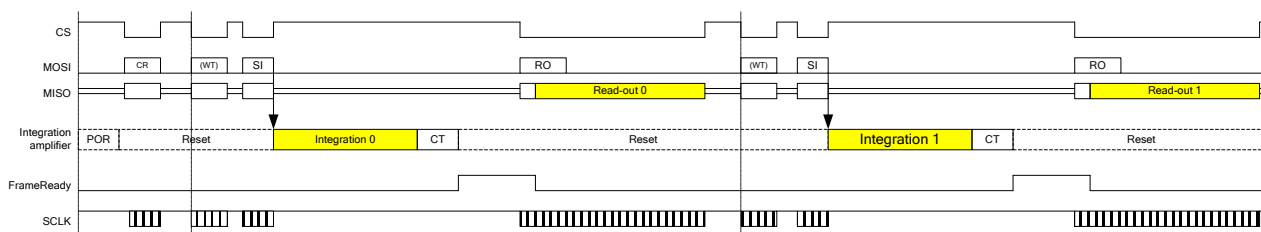

Figure 11: Global timing diagram
A global timing diagram is given in Figure 11. After power-up there is a Power-On-Reset phase (POR) to initialize the sensor in a reset state. The first command is a Chip Reset CR which is needed to fully initialize the device. The first integration cycle (Integration 0) is initiated by uploading a Start Integration SI command. After completion of the integration cycle, there is a minimum conversion time (CT) of a time t_f , after which the *FrameReady* goes high. This indicates that the read-out cycle can be started. When the read-out is completed, a new integration cycle can be started.
The first integrate/read-out cycle after power-on/chip reset is considered as a dummy scan and as such, the data has to be disregarded ("Read-out 0" in Figure 11).